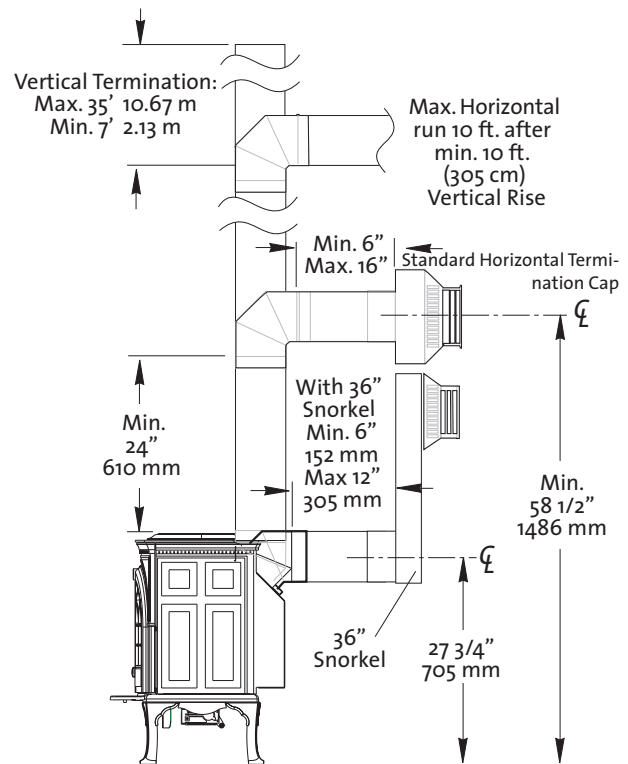

Figure 10. A vertical run in a horizontal termination must be at least 2 feet (61 cm).
The final position of the restriction shutter is determined by your individual vent configuration as indicated in fig. 10 on page 11. Further fine tuning can be made to compensate for draft characteristics that would otherwise interfere with proper burner performance such as low heat output, weak flame picture, or inefficient combustion.
- **Minimum vertical rise** from the top exit position is a 24" section vent pipe. See fig. 10.